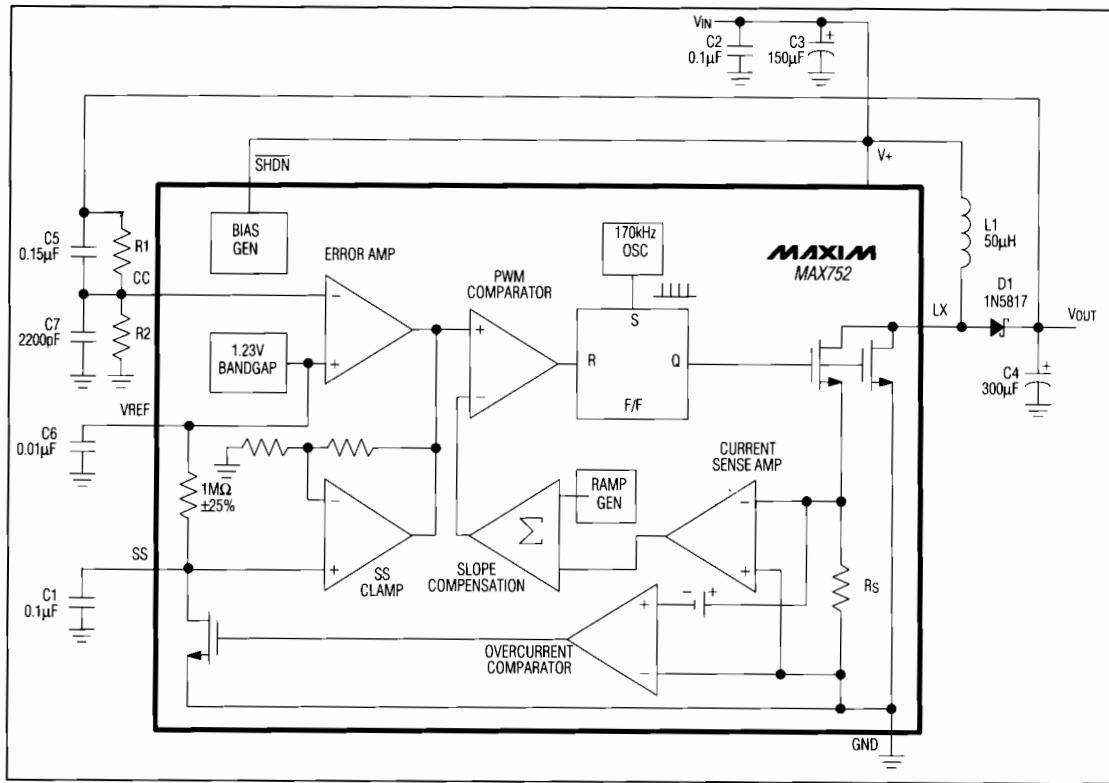

Figure 1b. MAX752 Detailed Block Diagram with External Components, Optimized for 12V Output.
The output voltage for the MAX752 is set by two resistors, R1 and R2 (Figures 1b and 2b), which form a voltage divider between the output and the Compensation Capacitor (CC) pin. The regulator adjusts the output so the voltage at the junction of R1 and R2 is equal to the +1.23V bandgap reference voltage. Since CC is a CMOS input, its input impedance is nearly an open circuit, which will not load the voltage divider. R2 can be any value between 10k Ω to 30k Ω . R1 is given by the formula: